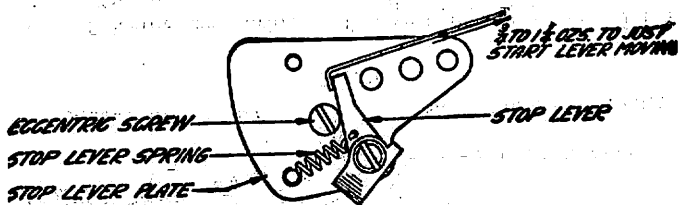

Fig. 13
4.24 Stop lever spring shall have a tension of min. 3/4 oz., max. 1-1/4 ozs. measured as in Fig. 13.